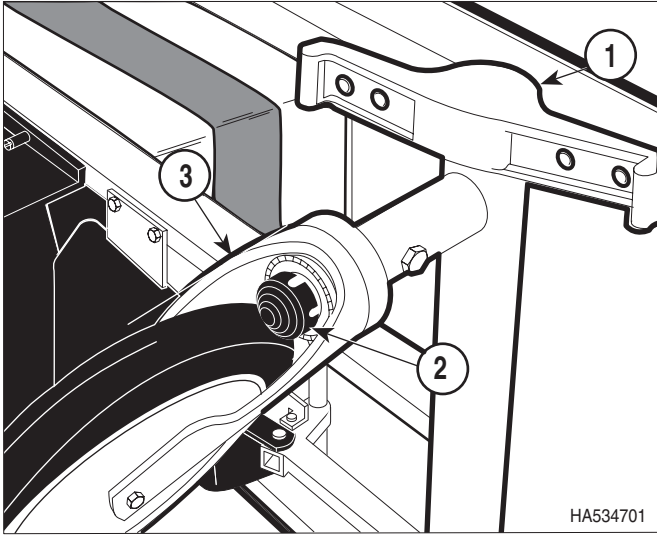

Figure 4-26. Caster Brake Adjustment
- (1) Depress the caster control pedal (1, Figure 4-26) to the neutral position.
- (2) If the brake needs to be tightened, use a punch to unscrew the rubber brake shoe (2) 1/4 turn, which moves the rubber brake shoe downward.